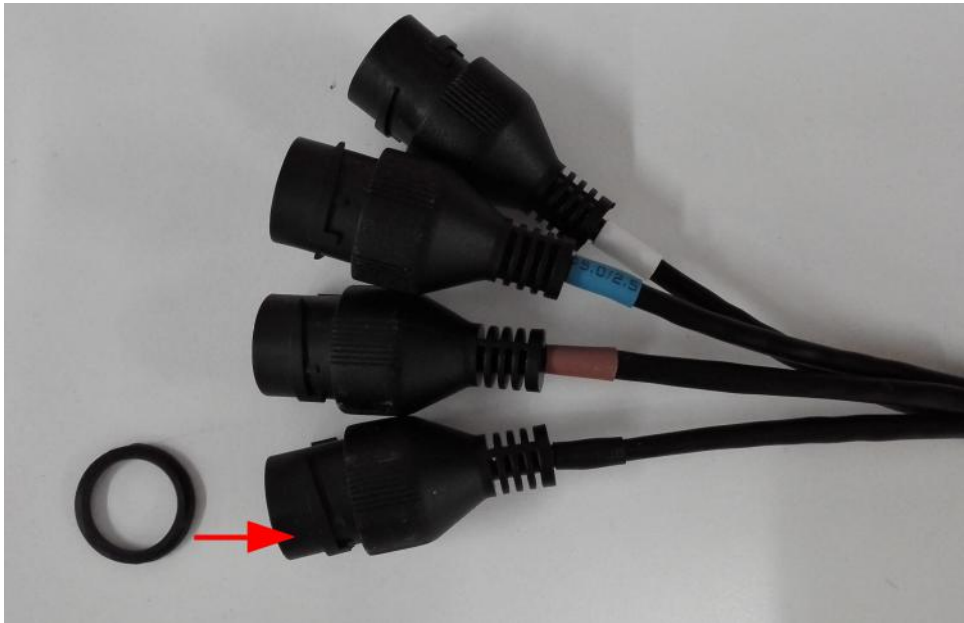

Figure 3-8
- 3) Put the plastic gasket to the head of the network cable. See Figure 3-8.